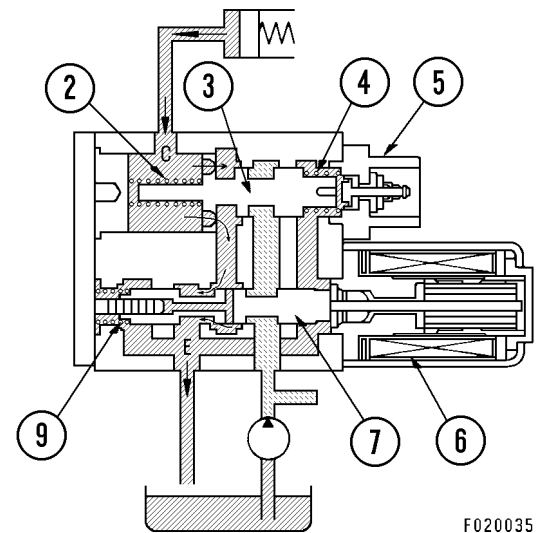

FIGURE 2-21.
1. (Refer to Figure 2-21): When no current is being sent to proportional solenoid (6), the reaction force for spring (9) of the pressure control valve pushes pressure control valve spool (7). As a result, proportional solenoid (6) is pushed pack, so pressure control valve spool (7) connects the oil at clutch port C to drain port E and drains the oil.